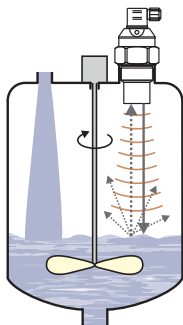

Fig. 11: Moderately stirred surface
- p) Scattering or attenuation of the ultrasonic signal can result if the surface level has been moderately stirred or rippled as a consequence a stirrer's operation, inflow of liquid and the like. Consequently, measuring range or unreliable level meter's functioning **might follow** (Fig. 11).